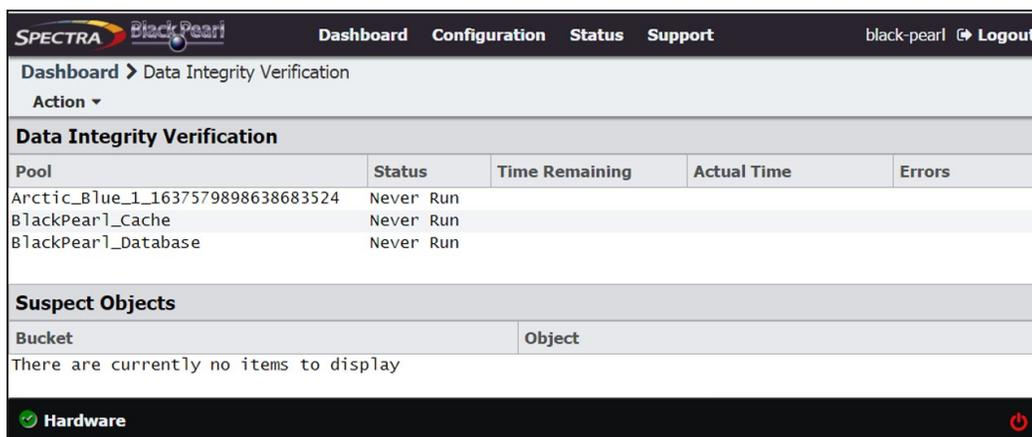

Figure 285 The Data Integrity Verification screen.
1. From the menu bar, select **Support > Tools > Data Integrity Verification**. The Data Integrity Verification screen displays (see Figure 285 on page 371).